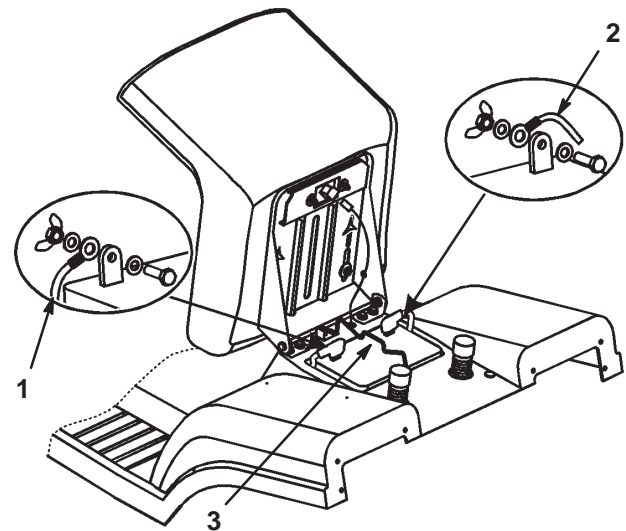

Figure 24
7. Disconnect the negative (black) ground cable from the battery post (Fig. 24).
9. Disconnect the positive (red) cable from the battery post (Fig. 24).
10. Remove the battery hold down rod (Fig. 24).
1. Place the battery into the chassis with the battery posts toward the front of the tractor (Fig. 24).
2. Secure the battery in the chassis with the hold down rod (Fig. 24).
3. Using the bolt and wing nut, connect the positive (red) cable to the positive (+) battery post (Fig. 24). Slide the rubber cover over the battery post.
4. Using the bolt and wing nut, connect the negative (black) cable to the negative (-) battery post (Fig. 24). Slide the rubber cover over the battery post.